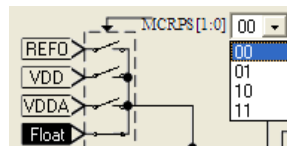

Figure 53
- (1) Click mouse left key to the network name, MCRPS, to select the network
- (2) Click mouse left key to the network switch, MCRPS, to select the network
- (3) Click mouse left key, window like Figure 53 shows up, then user can select the switch network